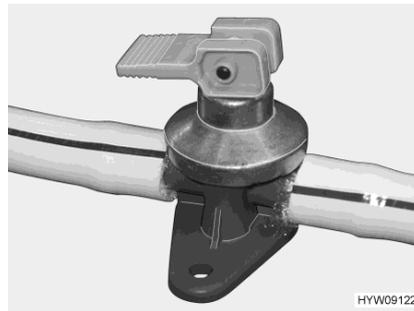
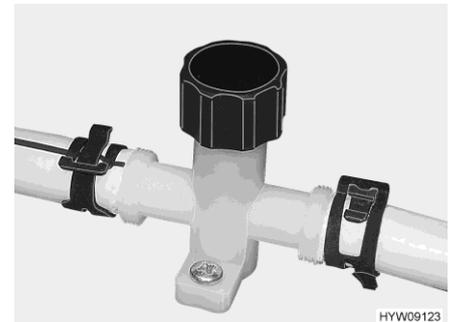

Fig. 98 Drain cock (boiler)
Fig. 99 Drain cock (water pipe)
- Close all drain cocks (Fig. 98 or Fig. 99). To do so, close the caps by turning them in a clockwise direction or set the rocking lever in a horizontal position. The drain cocks are installed under a floor trap in the centre of the vehicle.